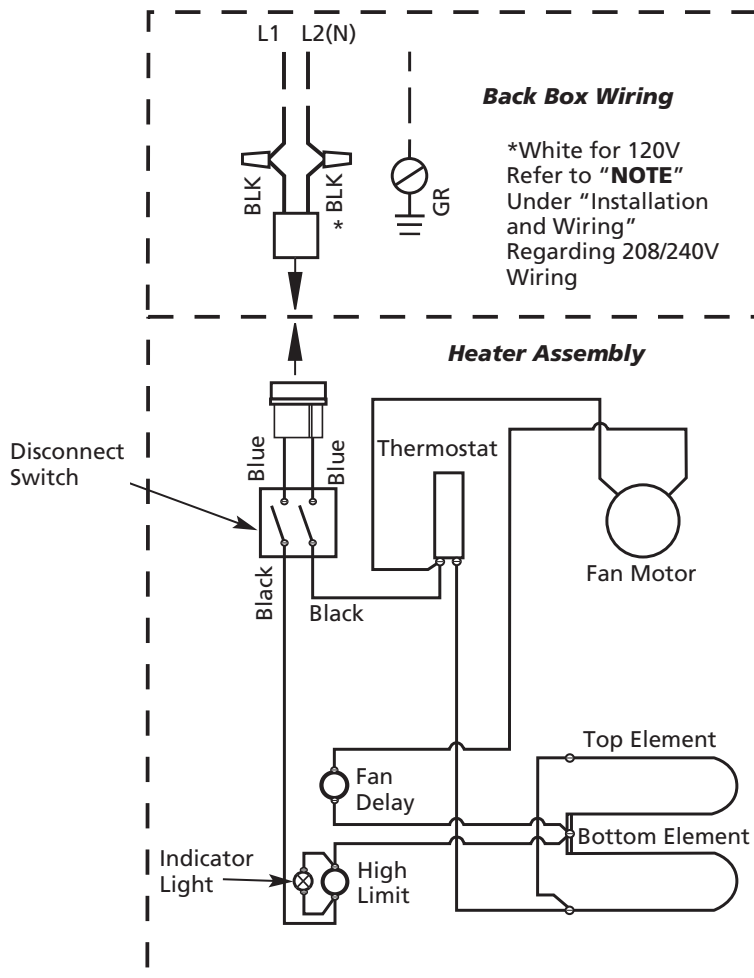

Figure 4
1. Following wiring diagram (Figure 4) connect supply wiring to heater lead-wires in back box.
leads to be connected to black leads.) Then connect the two black supply leads to the two black receptacle leads (See Figure 4).